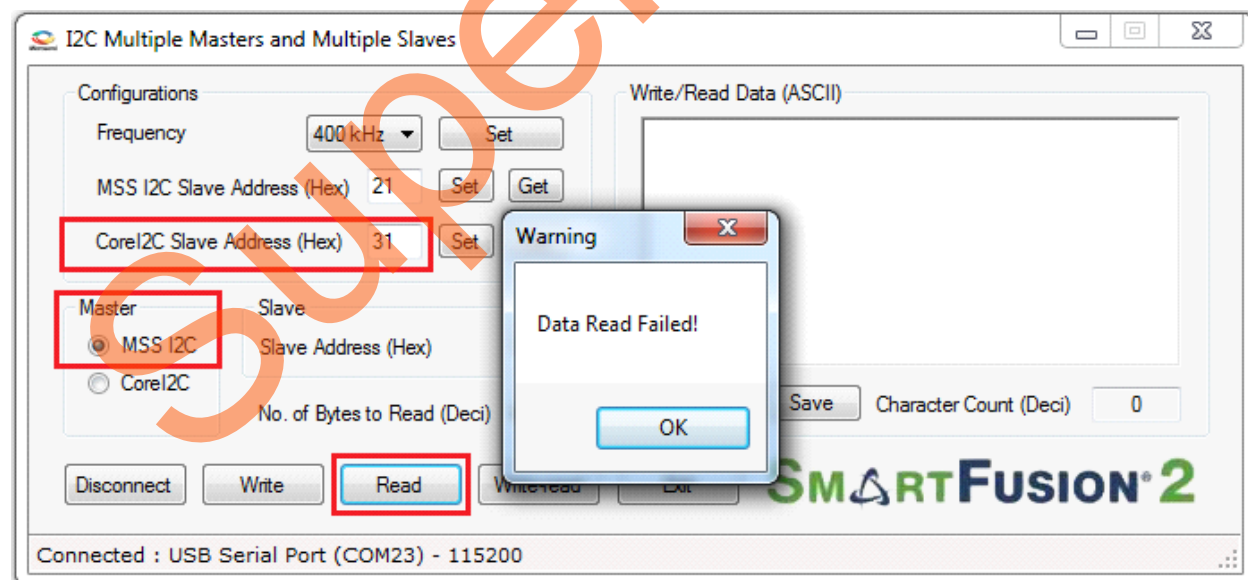

Figure 19 • Read Error
3. Read or write error occurs due to the non-availability of the selected Slave or due to connection problem. To validate error detection, one of the I2C Slaves SDA line must be removed from the SmartFusion2 Security Evaluation Kit board. Remove either I2C Header - H1 (7) or GPIO Header - J1 (62) pin and perform an I2C transaction. Figure 19 shows the read error message when the MSS I2C Master tries to read from the CoreI2C Slave.
4. Connect the removed flying lead to GND and perform an I2C transaction to test the time out. Figure 19 shows the time out message when the MSS I2C Master tries to read from the CoreI2C Slave.